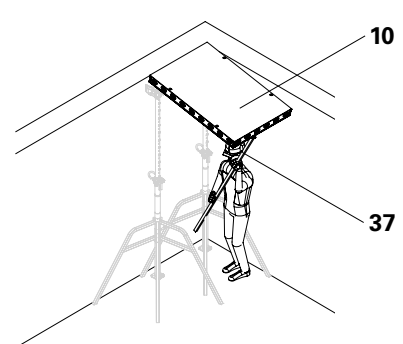
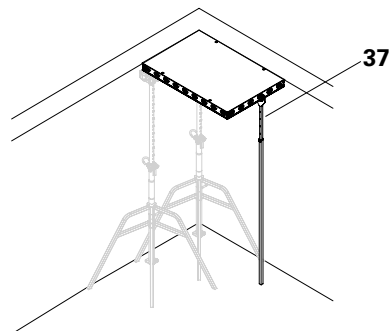

Fig. D2.03
Fig. D2.03a
4. Push the DP panel (**10**) upwards with the DUO shuttering aid (**37**) (Fig. D2.03) and position the panel on the shuttering aid. (Fig. D2.03a)